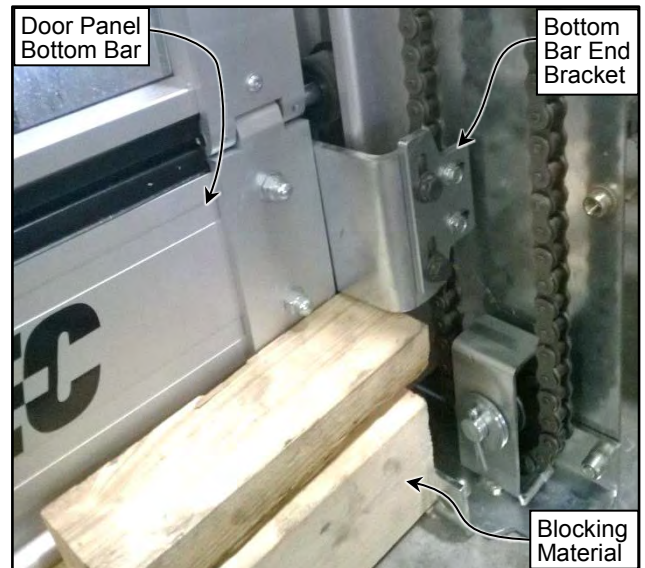

Figure 45
4. Block up the door panel so it is fully supported in the closed position as shown. (See Figure 45)